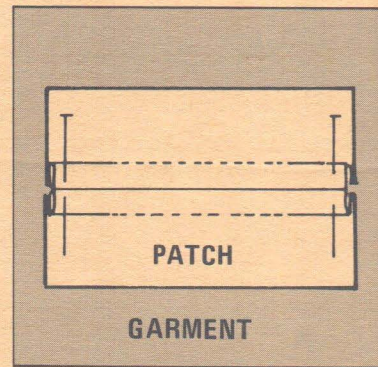

Figure 9
- Pin pleats in both ends of patch approximately 1/2 inch from ends of buttonhole (Fig. 9).